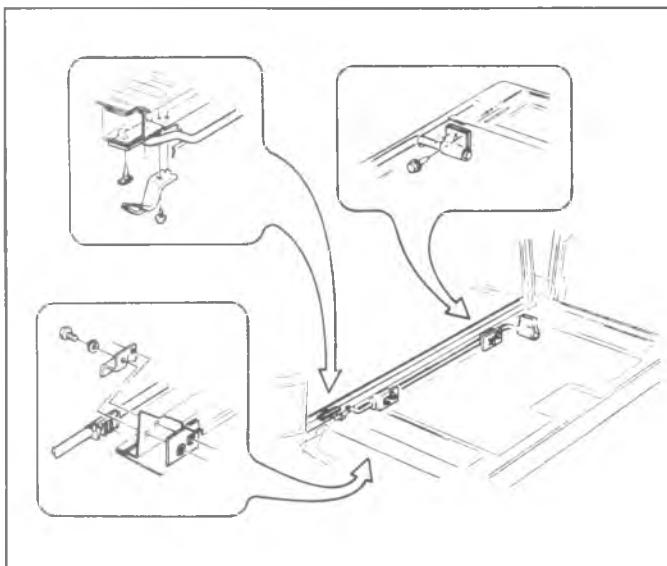

Fig. 2D-58--Torque Rod(Suburban)
to endgate, figure 2D-60, and remove regulator.
- a. Drill a 1/8 (3.1mm) inch hole through the sector gear and back plate, as shown in figure 2D-60. Install a sheet metal tapping screw into the hole to lock the sector gears in position.